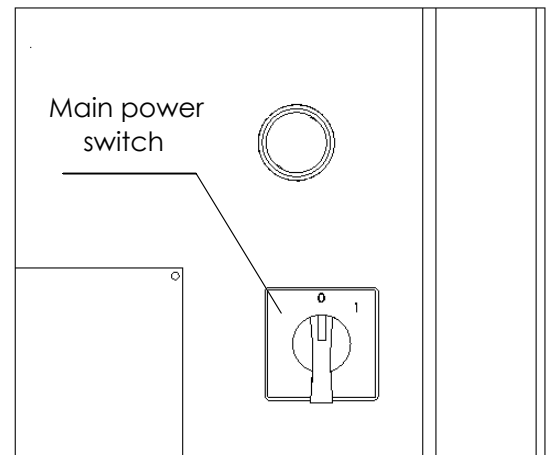

Figure.16
- a) Control that switch of the machine is open. (Figure.16)
- a) Check that the switch of the machine is turned on. (Figure.16)